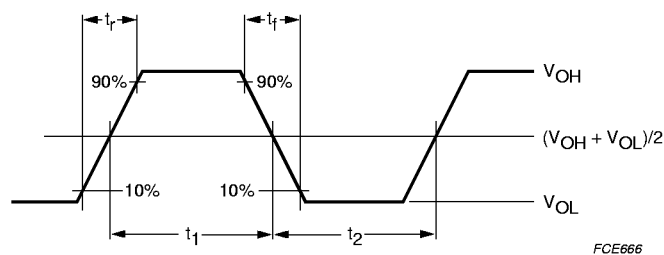

Fig.9 Definition of output transition times.
2. The transition times and duty factor definitions are shown in Fig.9; $\delta = \frac{t_1}{t_1 + t_2}$